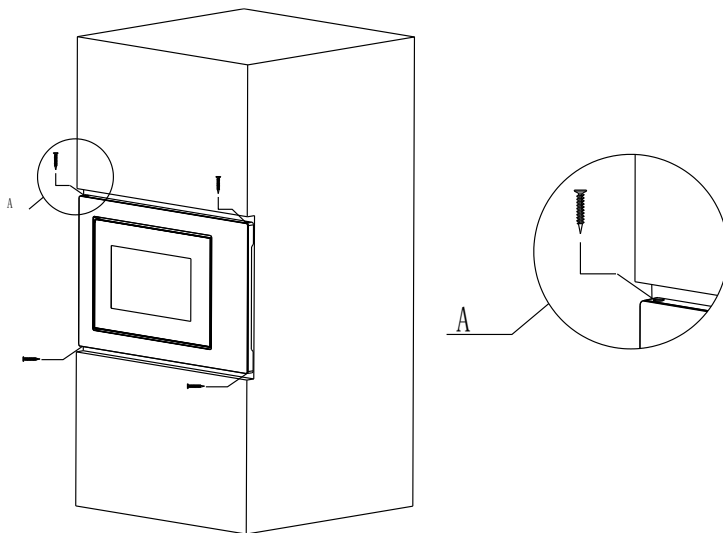

Fig.4
d) Use the screws of parts packing to secure the microwave oven in the cabinet. (Fig.4)